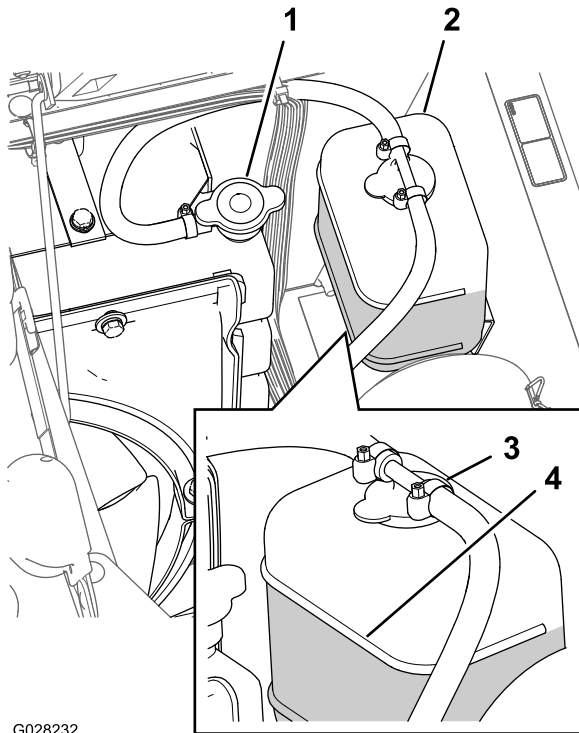

Figure 20
3. Carefully remove the radiator cap and the expansion tank cap (Figure 20).
Note: The radiator should be filled to the top of the filler neck and the expansion tank filled to the Full mark on the tank (Figure 20).
5. If coolant level is low, remove the expansion tank cap and the radiator cap, and fill expansion tank to the Full mark and the radiator to the top of the filler neck (Figure 20).
6. Install the radiator cap and the expansion tank cap (Figure 20).